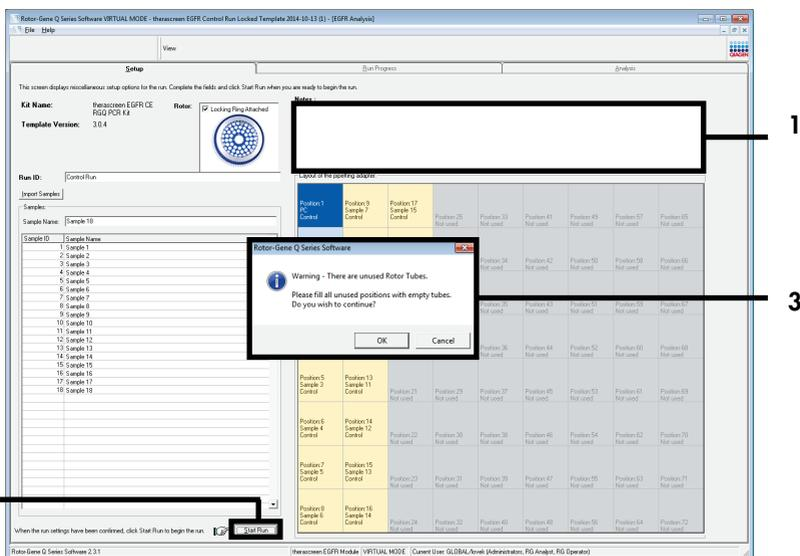

Figure 5. “Notes” dialog field (1), “Start Run” button (2) and “Warning” of unused rotor positions (3).
16. When all sample names are entered, verify that they are correct. Add any additional information in the **Notes** field if necessary, then click **Start Run** (Figure 5).
Note: If any rotor position is unused, a “Warning” will appear (Figure 5) to remind the user that all unused positions on the rotor must be filled with capped, empty tubes. Check that all unused rotor positions are filled with capped, empty tubes and click **OK** to proceed. The “Save As” window will open.